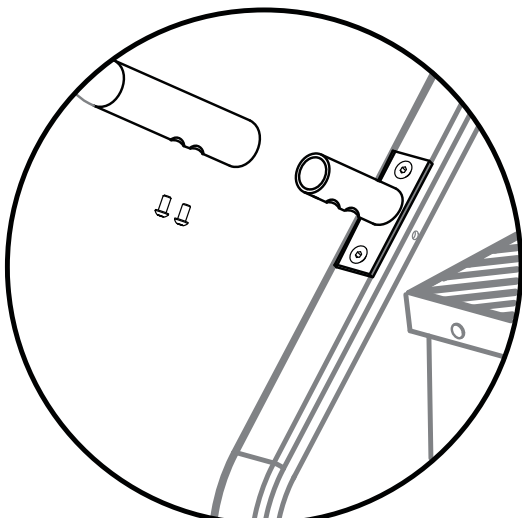

Figure 5B
**5-2** Attach the Left Hand Rail to the Base with 2 Button Head Screws (Figure 5B).